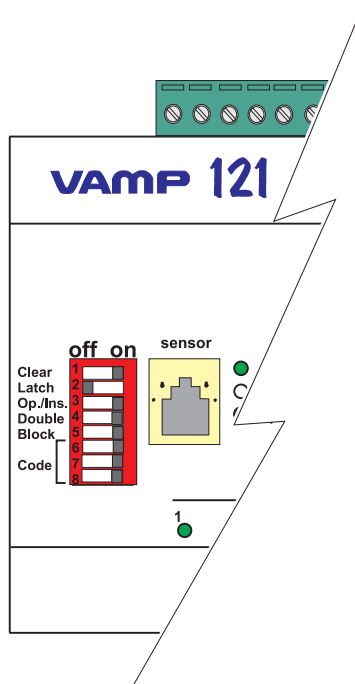

Figure 2-1. VAMP 121 dipswitch operations
Dipswitches 1-5 (see Figure 2-1):
- The **Clear** switch (nr 1 in Figure 2-1) is moved to the ON position to reset unit activation- and trip-information, as well as the trip relay, if latched. This switch is also used to clear any fault messages. When the system is in use, this switch must always be in the OFF position.
- The **Latch** switch (nr 2 in Figure 2-1) enables latching of the trip relay. When it is in ON position the latching function is activated.
- The **Operate/ Install** switch (nr 3 in Figure 2-1) is used to read in the configuration (number of connected arc sensors) to the unit eeprom-memory. When the desired number of sensors has been connected, the switch is briefly moved to ON position, to allow the unit register the number of connected arc sensors. When the system is in use, the switch must be in the Operate (OFF) position for the self-supervision to function.
- The **Double** switch (nr 4 in Figure 2-1) enables the choice of trip criteria's. In the "ON" position, two sensor inputs must be activated at the same time for the unit to trip. In the OFF position (normal) the unit trips if any of the sensor inputs become active.
- The **Block** switch (nr 5 in Figure 2-1) temporarily blocks the trip relay (in the ON position) when e.g. testing the unit. The switch must always be in OFF position when the system is in use. As long as the switch is in ON position the System Fault alarm is activated. The same function is attained by activating the binary input on connector X2-7, X2-8 (see also inputs). When the blocking function is activated, the error led is lit and the SF-relay activated.
Dipswitches 6-8 (Code switches, see Figure 2-1):